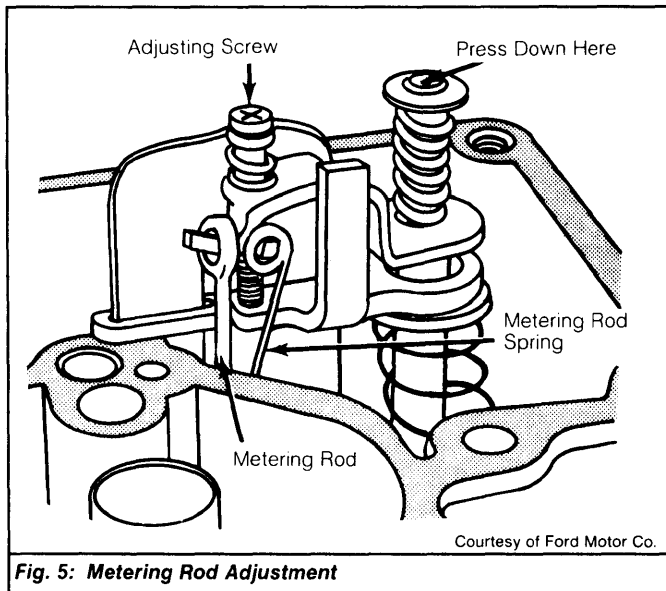

Fig. 5: Metering Rod Adjustment
3) Press down on top of pump diaphragm shaft until assembly bottoms. While holding diaphragm assembly in this position, turn rod adjustment screw counterclockwise until metering rod gently bottoms in body casting. See Fig. 5.